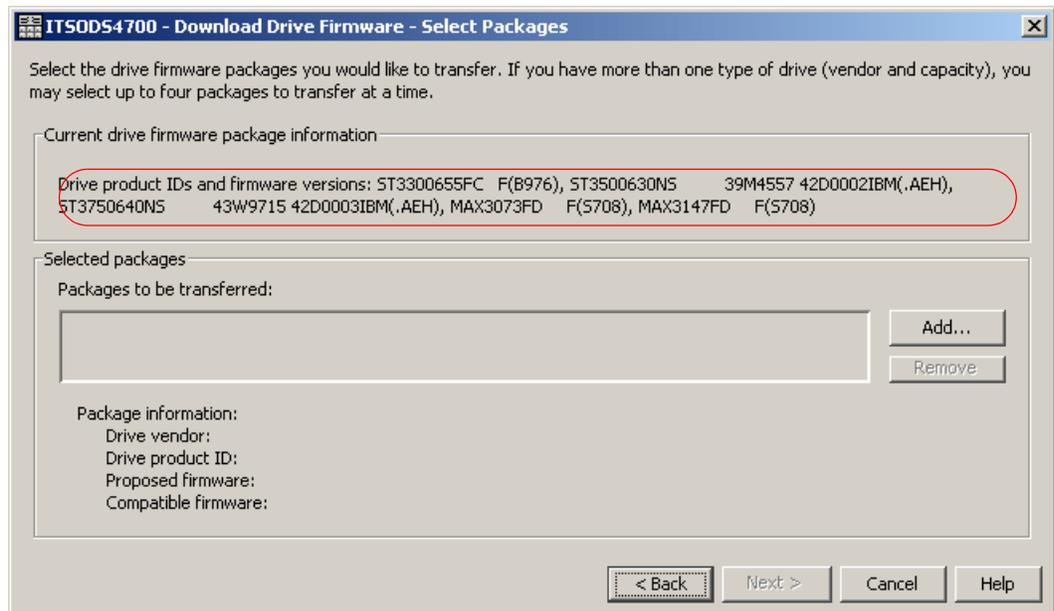

Figure 12-20 Drive firmware: Adding packages
2. After taking the option from the Storage Manager, the window in Figure 12-20 appears. This window lists current drive firmware package information and allows you to specify up to four firmware update packages. Click the **Add** button to select these drive firmware packages.